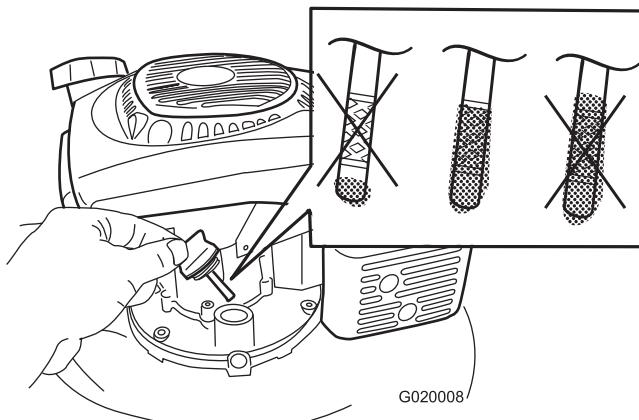

Figure 8
- Remove the dipstick, wipe it clean, and insert it into the oil filler neck, but **do not** screw it in (Figure 8).
- Remove the dipstick and check the oil level (Figure 8). If the oil level is below the Add mark on the dipstick, **slowly** pour oil into the oil-fill hole to raise the oil level to the Full mark on the dipstick. **Do not overfill.** (Max. fill: 0.65 l (22 oz.), type: 10W-30 or SAE 30 detergent oil with an API service classification of SJ or higher.)